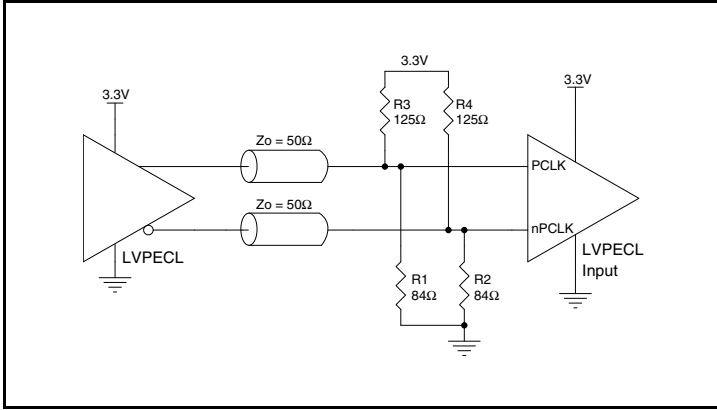

**Figure 1B. Alternative DC Coupling a Single LVCMOS Input to the IDT8SLVP2106I**
A practical method to implement  $V_{th}$  is shown in *Figure 1B* below. The reference voltage  $V_{th} = V_1 = V_{CC}/2$ , is generated by the bias resistors  $R_1$  and  $R_2$ . The bypass capacitor ( $C_1$ ) is used to help filter noise on the DC bias. This bias circuit should be located as close to the input pin as possible.
*Figure 1B* shows a way to attenuate the PCLK input level by a factor of two as well as matching the transmission line between the LVCMOS driver and the IDT8SLVP2106I at both the source and the
Though some of the recommended components of *Figure 1B* might not be used, the pads should be placed in the layout so that they can be utilized for debugging purposes. The datasheet specifications are characterized and guaranteed by using a differential signal.